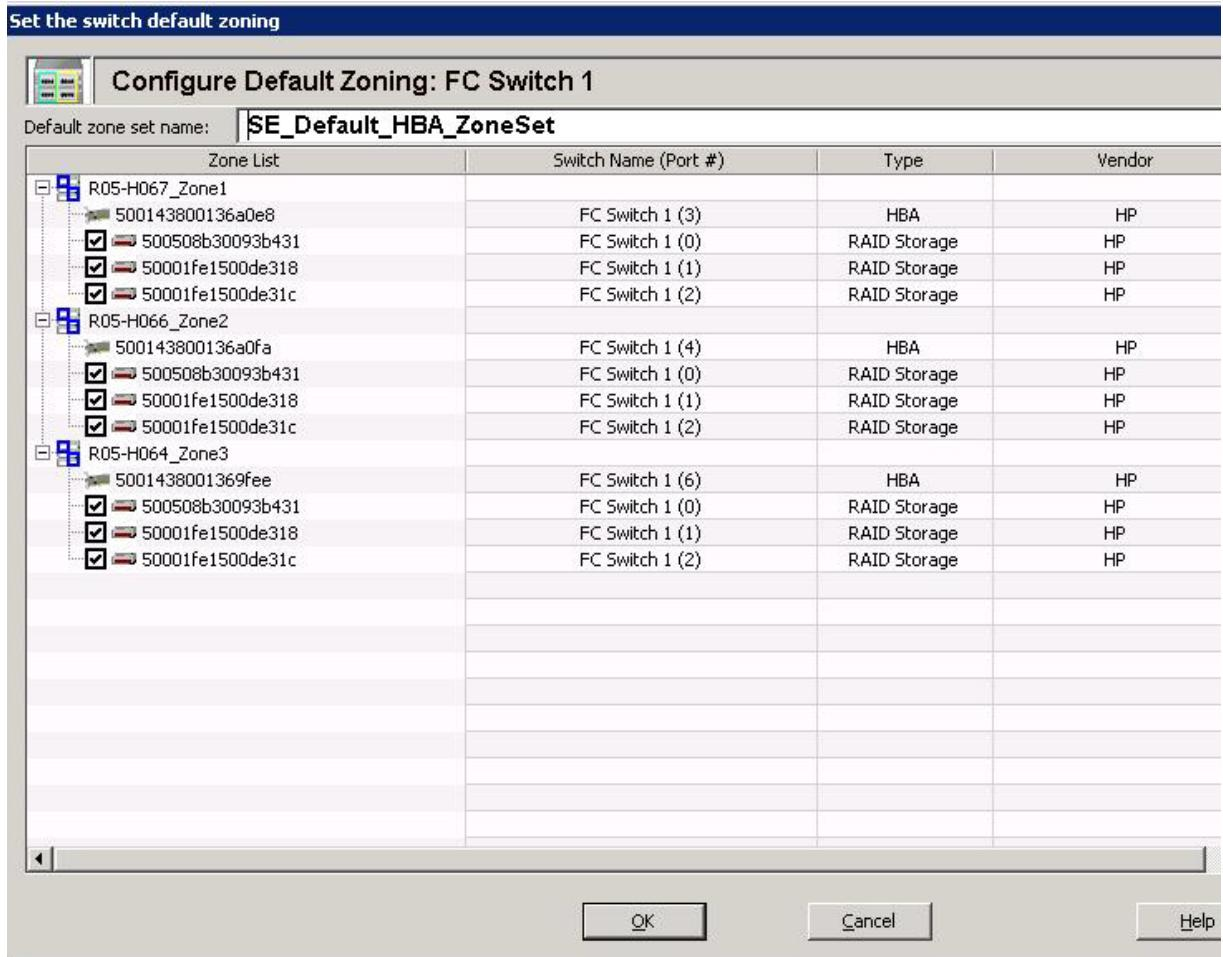

Figure 17 Set the Switch Default Zoning dialog box: new switch setup
- To continue with the next step of switch setup, click **Yes**. The Set the Switch Default Zoning dialog box (Figure 17) opens. Go to step 9.